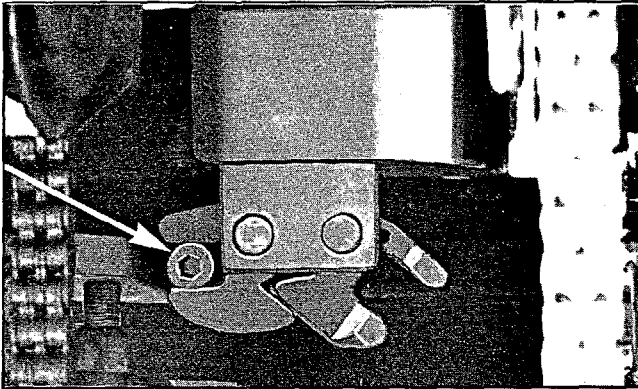

Figure 4-48 Latch Positioning
3. Inspect the latch mechanism on the inner intermediate channel. The latch throat that engages the pin must be horizontal as shown in figure 4-48. If the capscrew latch pin holds the latch in a non-horizontal position, add or subtract shims under the contact pad on the top of the outer intermediate channel crossmember until the latch is properly adjusted.
- (b) The two latches must be properly interlocked as shown in figure 4-48 and the spring must be securely engaged with both latches.